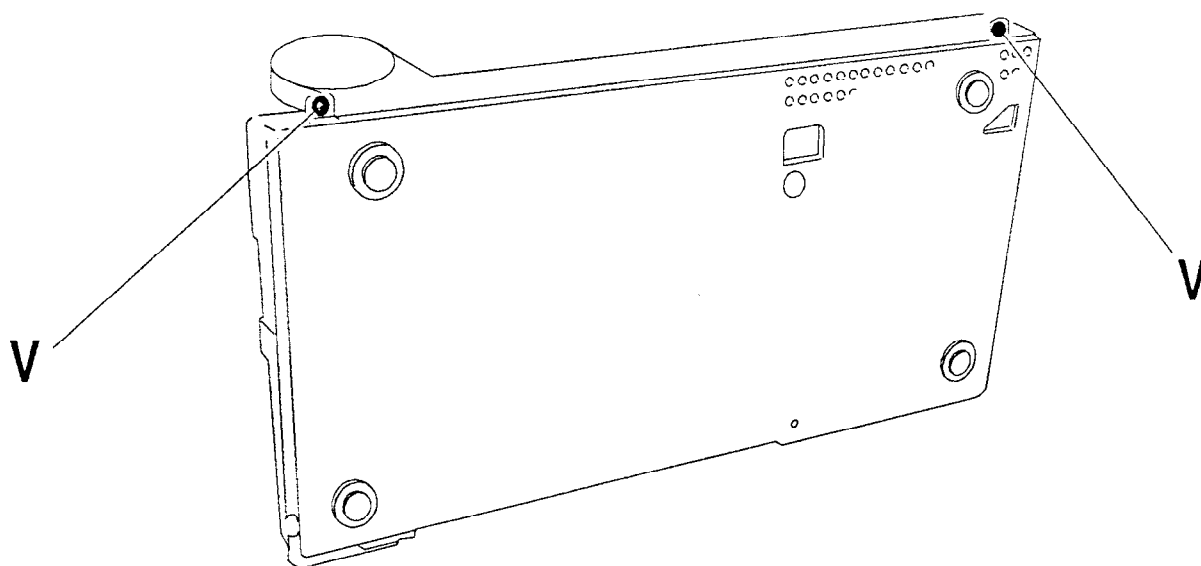

Fig. 7-12
- 3) Put the fax machine in the vertical position and remove the two screws **V** (Fig. 7-12):